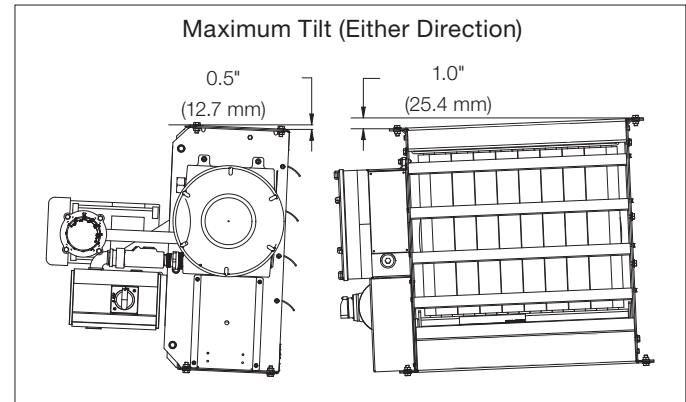
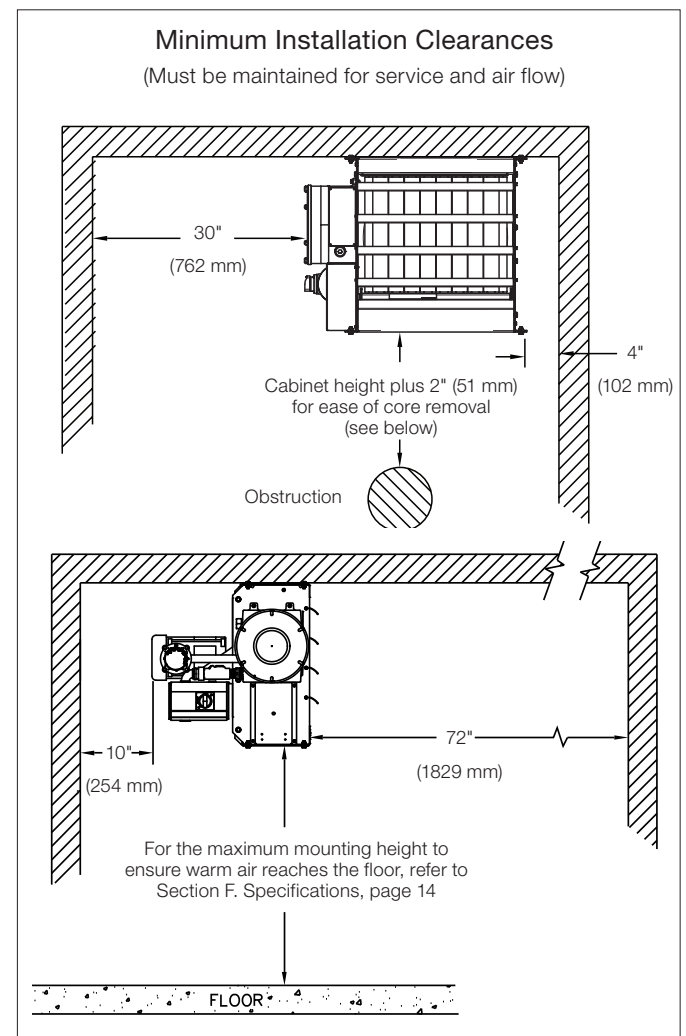

Figure 3
Figure 4
- 2.1 The heater must be permanently mounted in a level, upright position for operation. See Figure 3, Figure 4, and Figure 5 on page 7 and 8 for maximum tilt angles, installation clearances, and physical dimensions. For ease of installation, a variety of mounting kits are available from the factory.